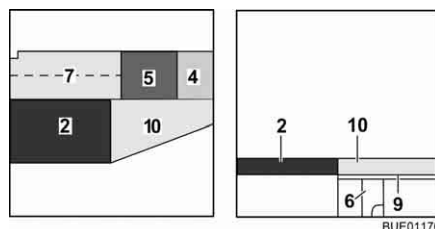

Fig. 137 After conversion
- Place the seat cushion (Fig. 137,5) in the centre.
- Place the back cushion (Fig. 137,4) between the seat cushion and the wall.
- Place the additional cushion (Fig. 137,10) on the bed widening.